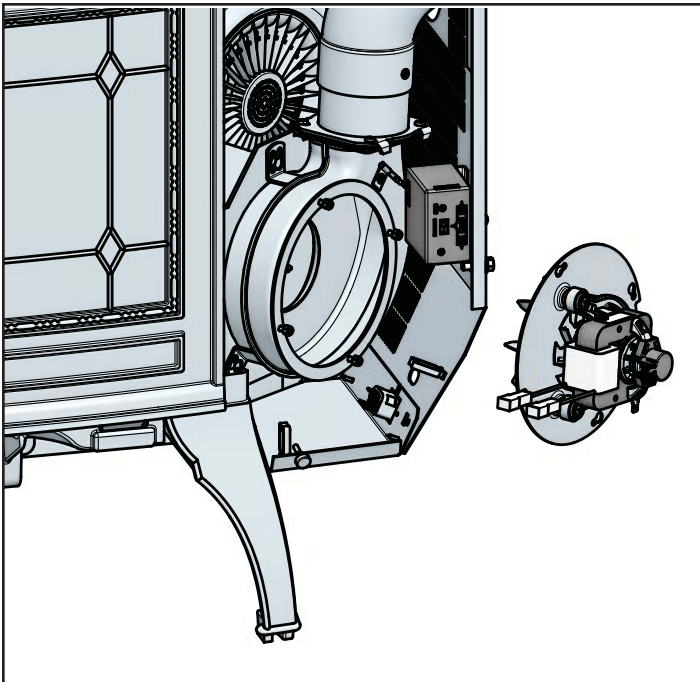

Figure 22.1
2. Remove the right side panel by loosening the 2 screws using a Phillips head screw driver or wrench. **Figure 22.1.**